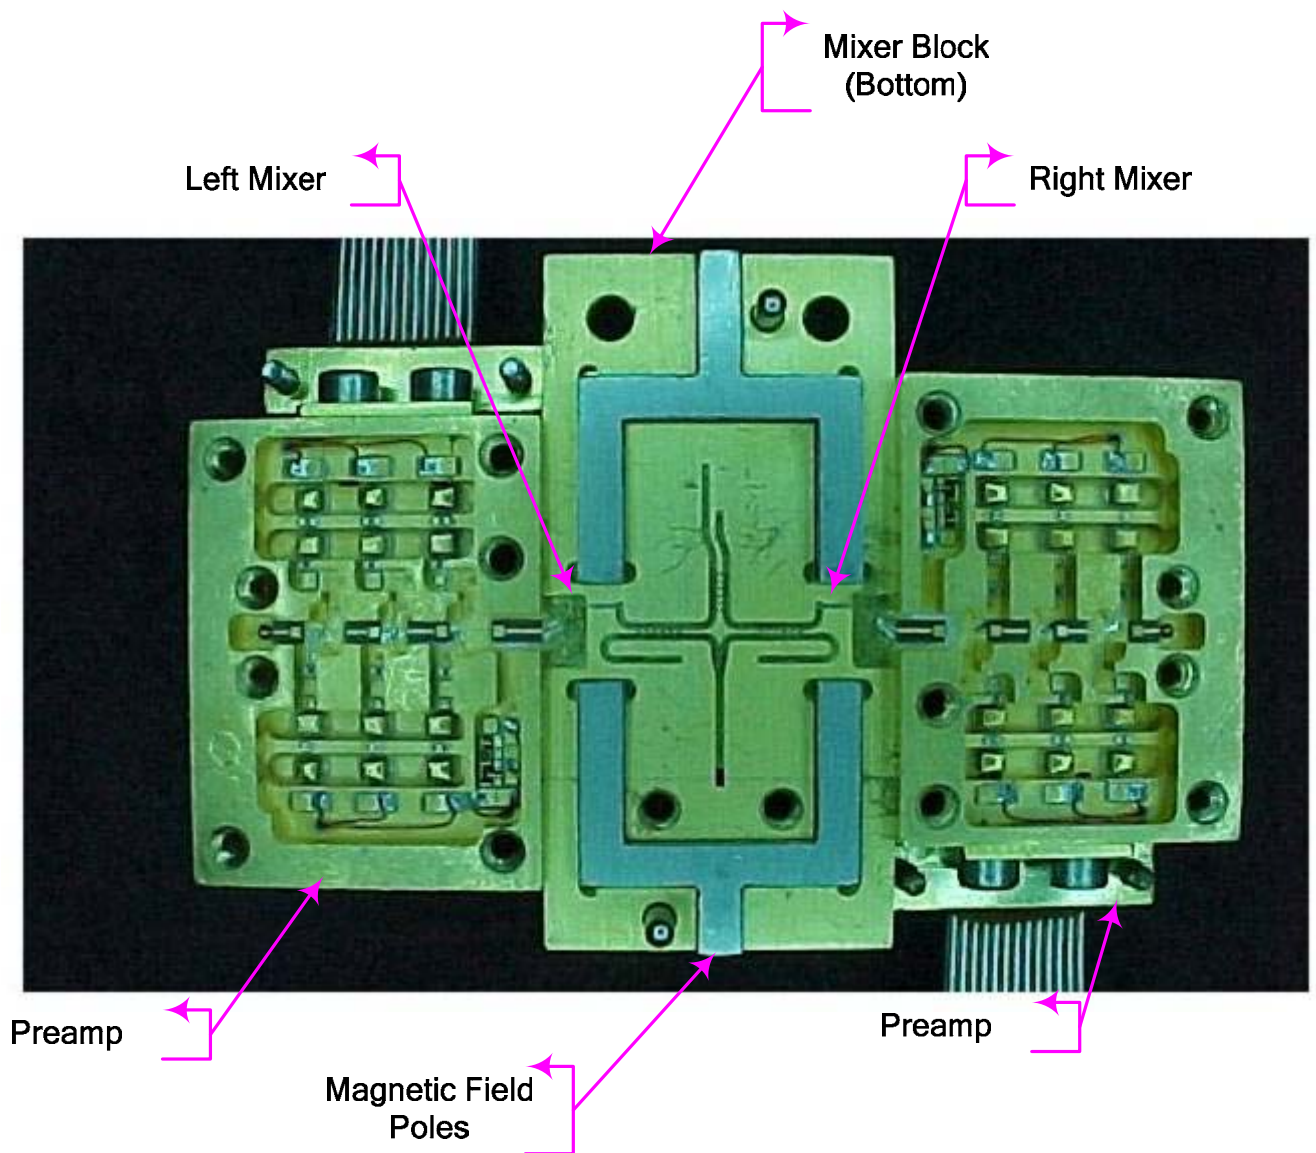

Figure 1: Band 6 SIS Mixer-Preamp
A mixer integrated with both preamps is shown in Figure 1. The mixer block contains two mixer chips as identified in the drawing along with pole pieces for generating a magnetic field across the mixer junctions. The RF signal enters the mixer through waveguide orthogonal to the picture and located in the cover (not shown). This RF signal enters the top waveguide shown in the picture and is coupled through a 90° hybrid coupler to each mixer chip. The local oscillator (LO) signal enters the mixer through the waveguide orthogonal to the plane of the picture and shown in cross section in the lower quarter of the mixer block. The LO is split and then coupled to the mixers through two additional 90° hybrid couplers. Loads for the waveguide are installed in the cover and are not visible from this photo.